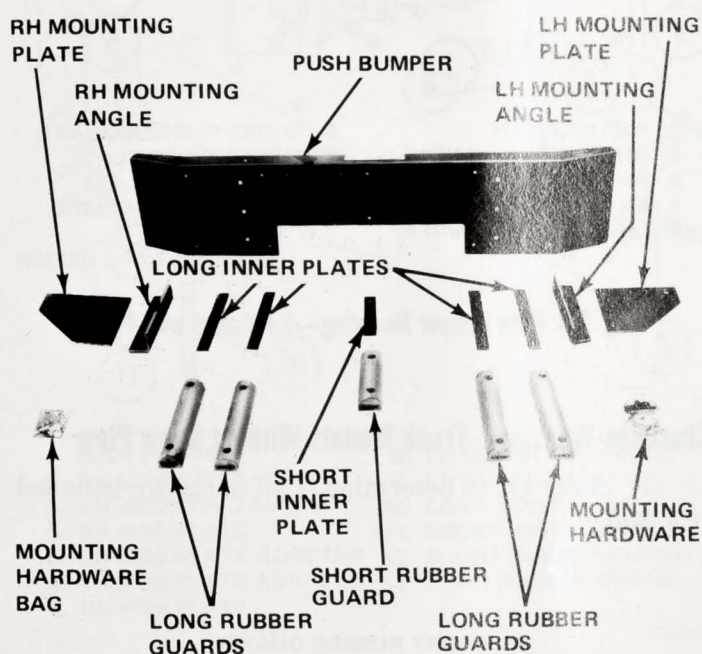

Fig. 3-1 Push Bumper Kit Components—CJ Models
(1) Check kit to determine if all parts are included (fig. 3-1).